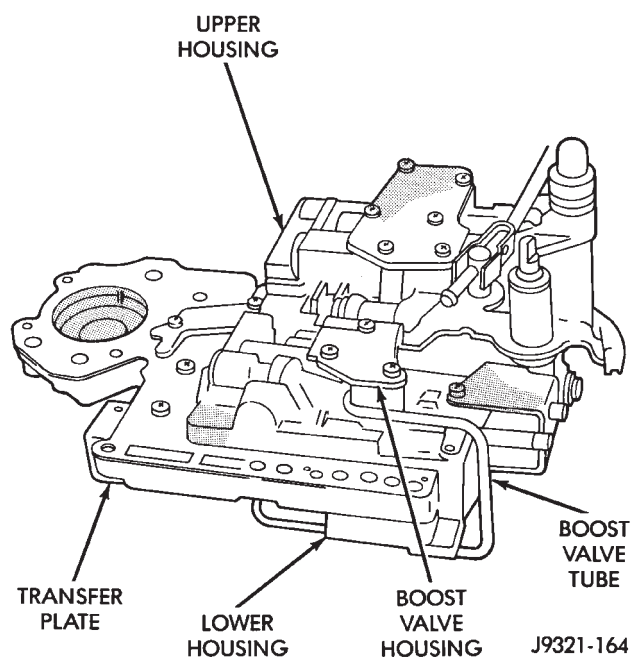

Fig. 14 Valve Body-46RH
(6) Position drain pan under transmission oil pan.
(7) Remove transmission oil pan and gasket.
(8) Remove fluid filter from valve body.
(9) Push valve body solenoid wire connector out of case.
(10) Remove valve body attaching bolts.
(11) Lower valve body slightly and remove accumulator piston and accumulator inner and outer springs.
(12) Push manual lever shaft and solenoid case connector out of transmission case. Lower valve body, rotate it away from case, pull park rod out of sprag and remove valve body (Fig. 14).
(1) Verify that park/neutral position switch has NOT been installed in case. Valve body cannot be installed if switch is in place.
(2) Check condition of seals on valve body solenoid case connector (Fig. 14). Replace seals if cut or worn.
(3) Check condition of manual lever shaft seal (in case). Remove seal if lip is cut, or worn. However do not install new seal at this time.